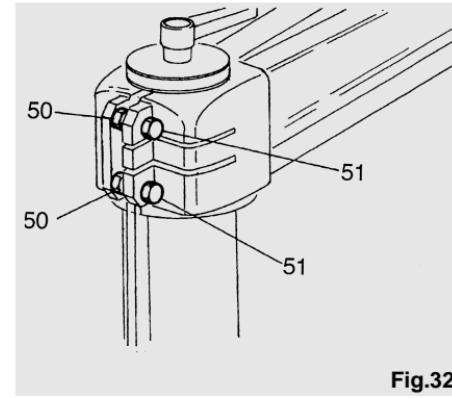

Fig.32
On account of the continual rotation of the arm, some play can form in the coupling with the vertical pillar. In that case refer to figure 32. Loosen the two internal lock nuts (50) and tighten the two screws (51) until the play is eliminated.